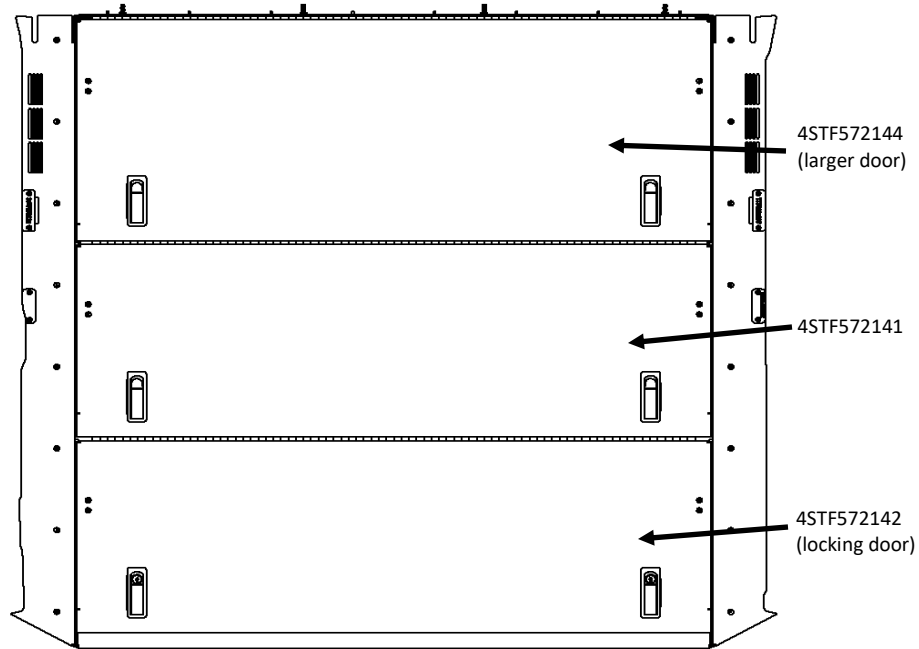

Figure 13
1. Locate Rear Locking Cargo Lid Assembly [4STF572142], Mid Cargo Lid Assembly [4STF572141], Front Cargo Lid Assembly [4STF572144], and (21) [3X315] 6-32 X 5/16 Flat Head Socket Cap Screws.
2. Attach Front Cargo Lid Assembly to Front Panel Assembly with Flat Head Socket Cap Screws using 5/64 hex drive. Repeat to attach Mid Cargo Lid Assembly to Front Mid Panel Assembly and Rear Locking Cargo Lid Assembly to Rear Mid Panel Assembly. Attached Panels will look like Figure 13.